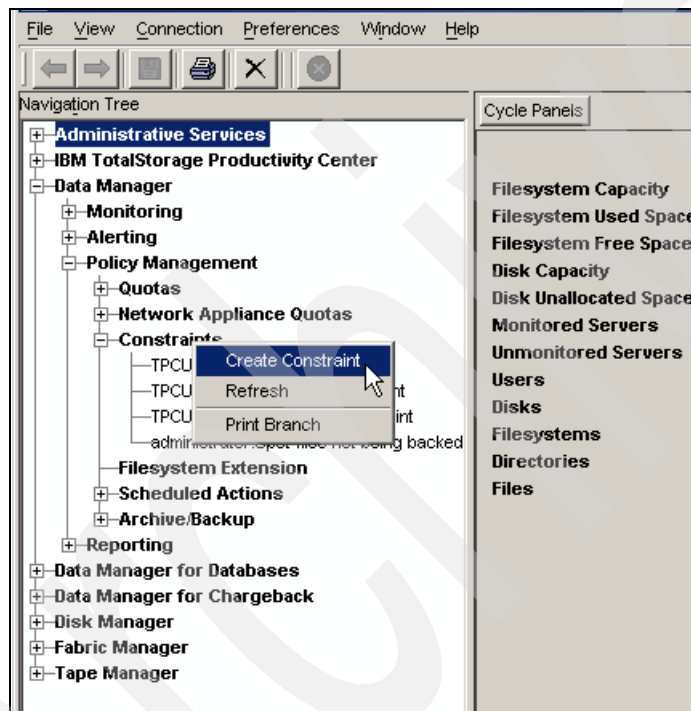

Figure 2-1 Create constraint
1. Select **Data Manager** → **Policy Management** → **Constraints**. Right-click **Constraints** to create a new constraint as seen in Figure 2-1.